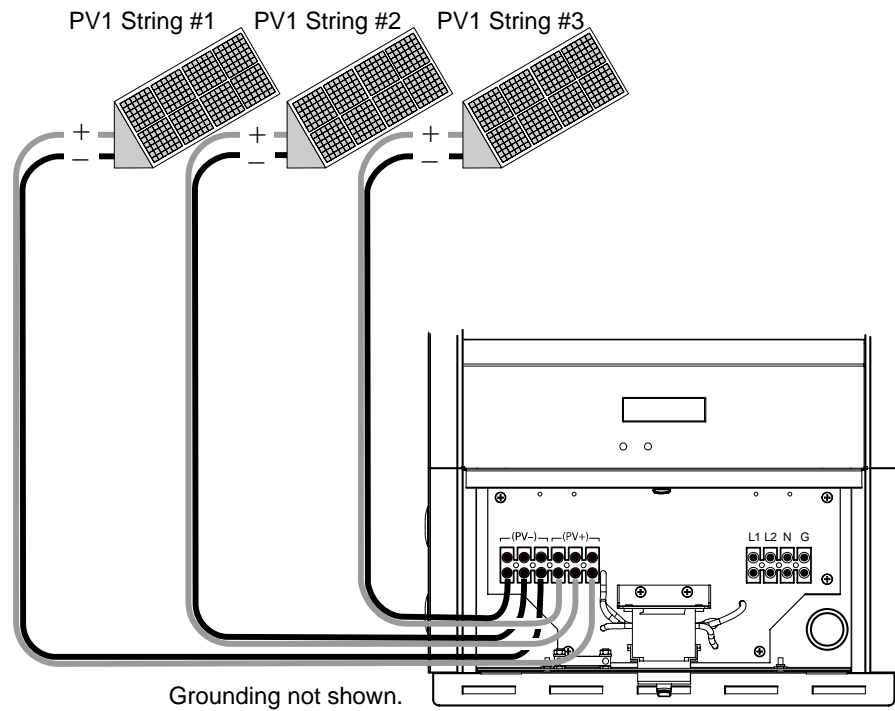

**Figure 3-6** DC/AC Disconnect Switch Positions
Use caution when working around sources of DC power. Although the DC/AC disconnect switch disconnects the inverter from DC power, hazardous voltages from paralleled PV strings will still be present upstream of the switch and inside the wiring box. To reduce the risk of shock during installation, cover the array with an opaque (dark) material before making any connections, ensure the DC/AC Disconnect Switch is set to OFF (see Figure 3-6), and always test for voltage before touching exposed wiring or devices.
**Do not** connect PV1 positive (+) and PV2 negative (–) to inverter 1 and PV2 positive (+) and PV1 negative (–) to inverter 2. See Figure 3-6.